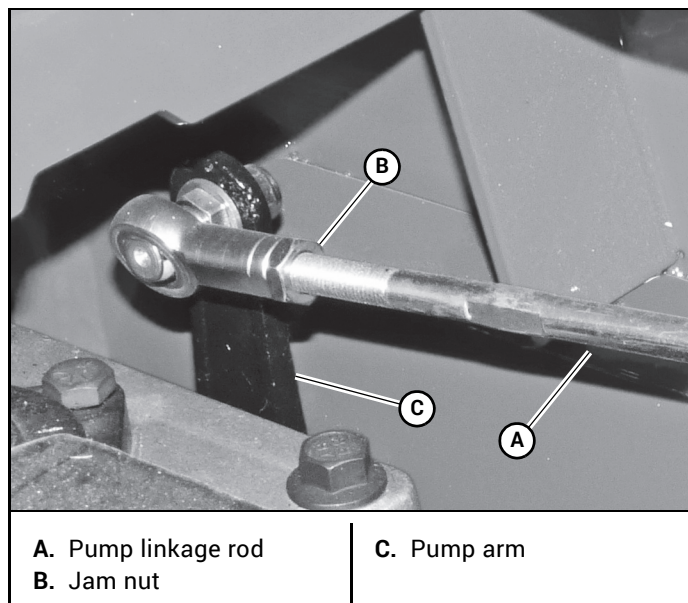

Figure 4-3
6. If wheel(s) are rotating forward, loosen the jam nuts on the pump linkage rods and rotate the rod to lengthen the steering control linkage until the wheel(s) come to a stop. Figure 4-3
8. If wheel(s) are rotating in reverse then loosen the jam nuts on the pump linkage rods and rotate the rod to shorten the steering control linkage until the wheel(s) come to a stop. Figure 4-3